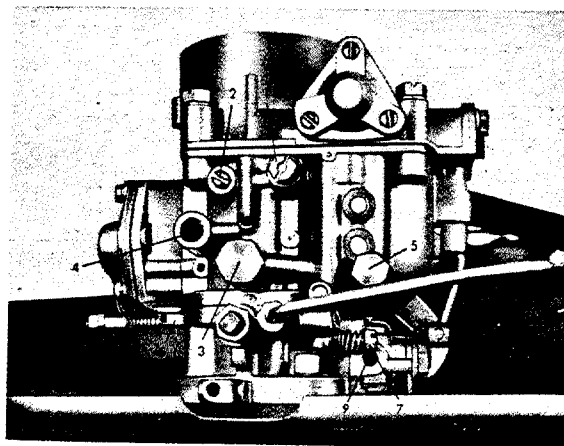

Fig. M 33/7
7. Screw idle jets (1) out (Fig. M 33/7).
8. Loosen Venturi retaining screws (2) and take Venturi out (see Fig. M 33/7).
9. Screw out main jet carrier (3) with main jet (see Fig. M 33/7).